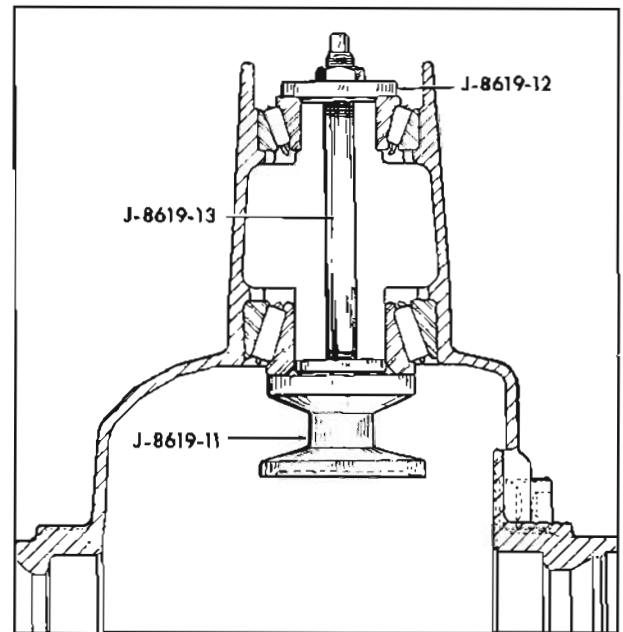

Fig. 10-120 Securing Gauge Plate in Carrier
6. Lubricate front and rear pinion bearings; then position them in their respective races in the carrier. While holding bearings in place, install Gauge Plate J-8619-11 in carrier on rear pinion bearing inner race and place washer on surface of front pinion bearing. Insert Stud J-8619-13 through pilot, front and rear bearings and thread it into gauge plate. (Fig. 10-120)